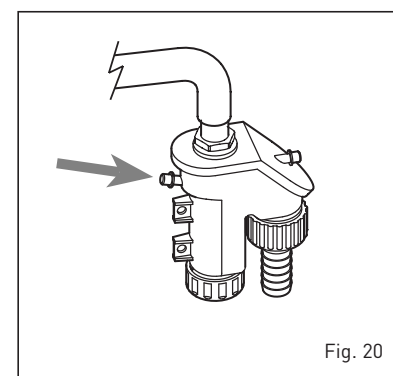

Fig. 20
ring water into the combustion chamber while the burner is removed. should the boiler not be used for long periods of time, it is important that the condensate trap is checked and filled if required. It can be filled via the filling vent, see fig 20.
4.5 MAINTENANCE (fig. 20)